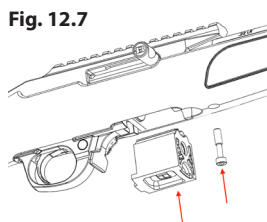

Fig. 12.7
- Tighten the stock screw to approximately 30-inch pounds of torque. (Fig. 12.7).